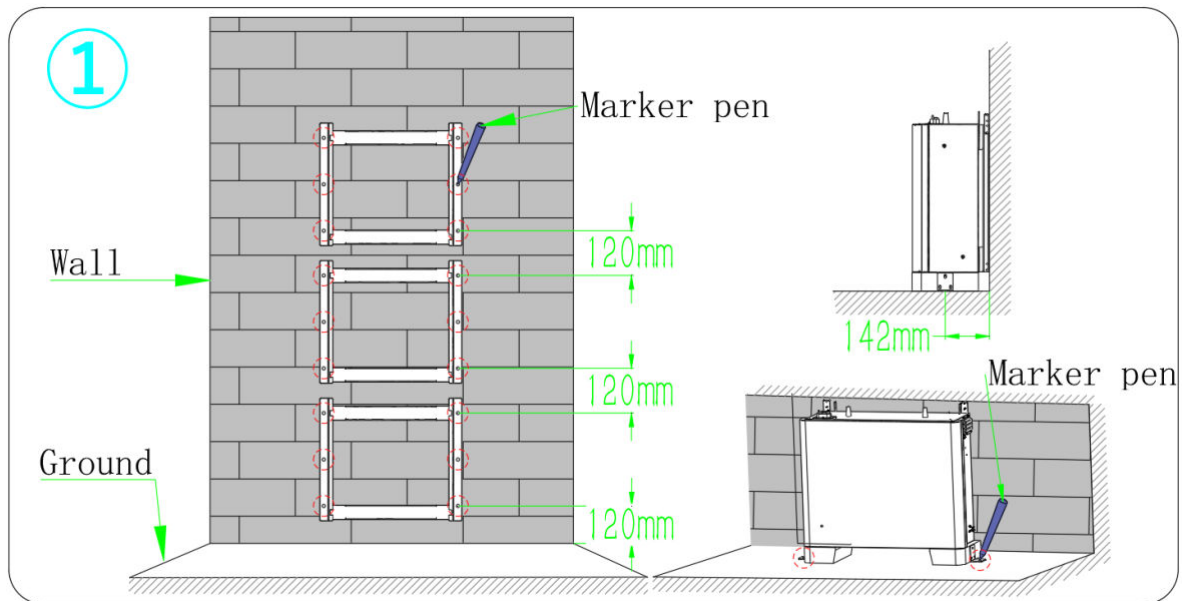

FIGURE 3.2: STEP1
- Step 1: Place the battery pack in place and mark the floor and wall with a marker, as shown in Figure 3.2.